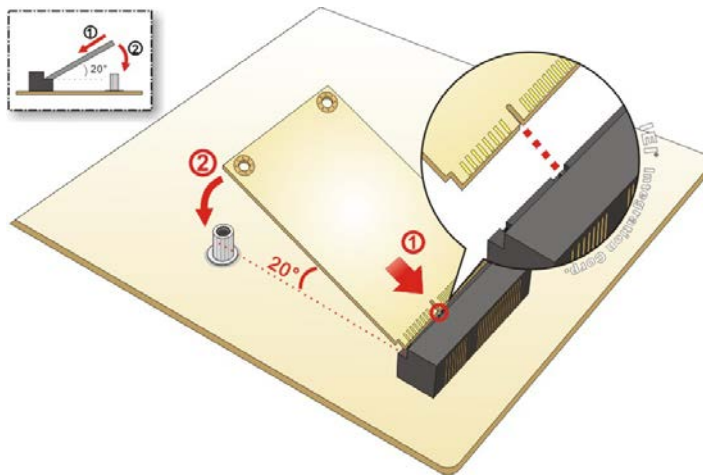

Figure 4-5: Inserting the Full-size PCIe Mini Card into the Slot at an Angle
Step 2: Line up the notch on the card with the notch on the slot. Slide the PCIe Mini card into the socket at an angle of about 20° (**Figure 4-5**).
Step 3: Line up the notch on the card with the notch on the slot. Slide the PCIe Mini card into the socket at an angle of about 20° (**Figure 4-5**).